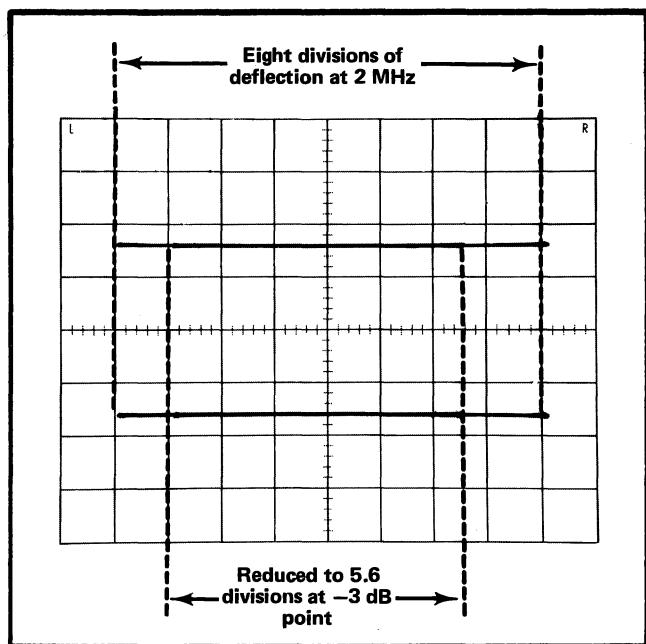

Fig. 5-18. Typical CRT display when checking horizontal bandwidth (double exposure).
d. CHECK—Both horizontal amplitudes should not be reduced to less than 5.6 divisions ( $-3\text{ dB}$  point for a 2 MHz signal; see Fig. 5-18).